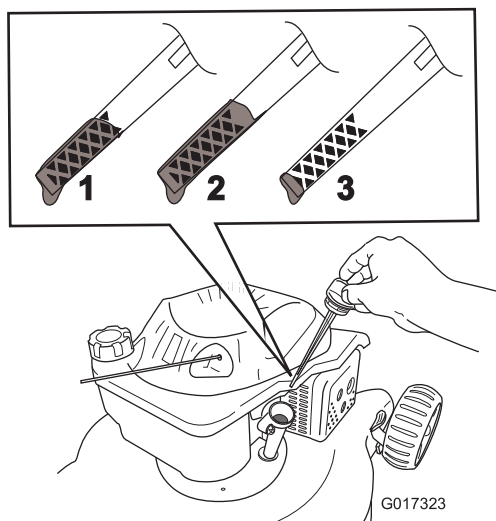

Figure 11
2. Remove the dipstick (Figure 11).
5. Remove the dipstick and read the oil level; refer to Figure 11.